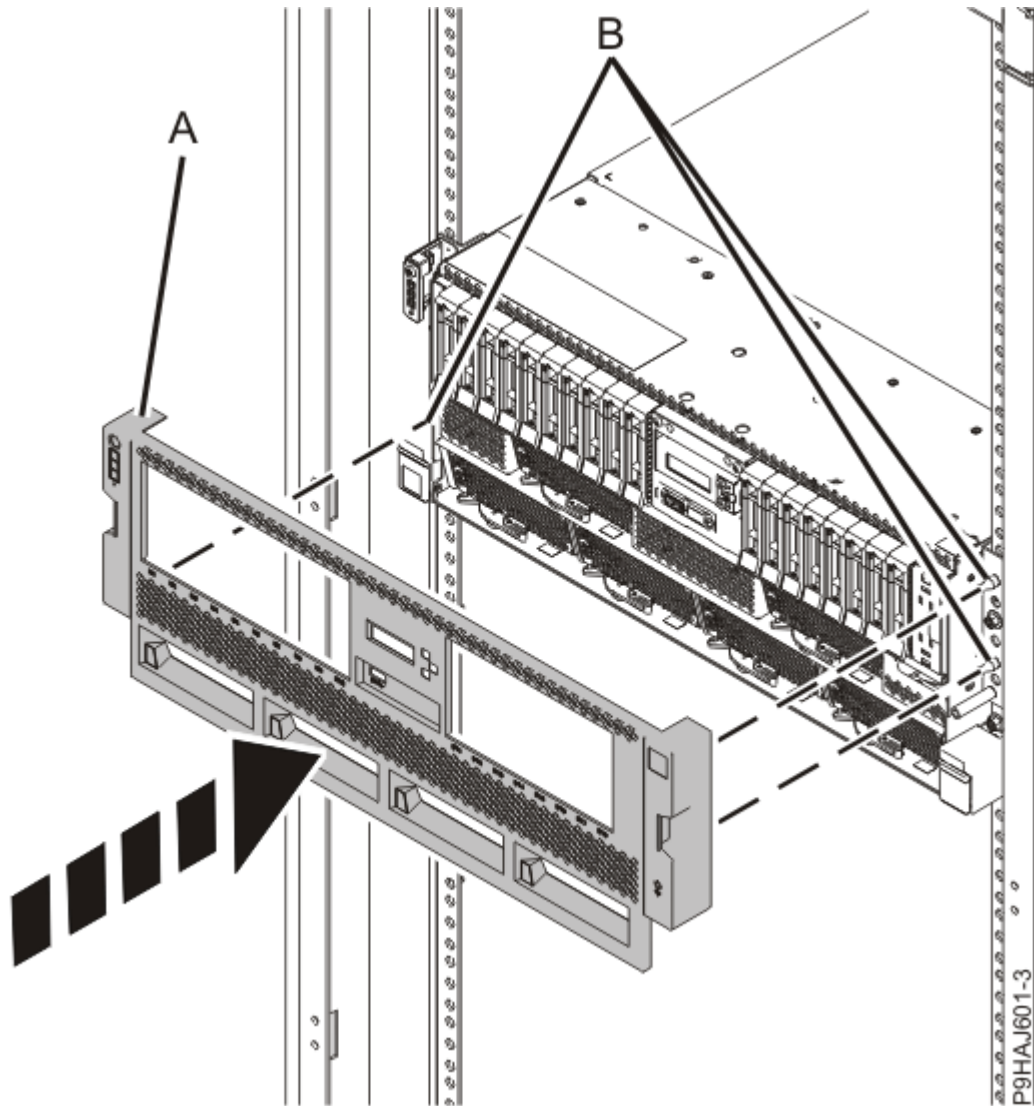

Figure 16. Installing the front cover
5. For a rack-mounted system, gently push the front cover **(A)** in until the cover snaps into place. The cover has indentations where you can hold it more easily. Use the alignment pins **(B)** to secure the cover to the system as shown in Figure 16 on page 19.